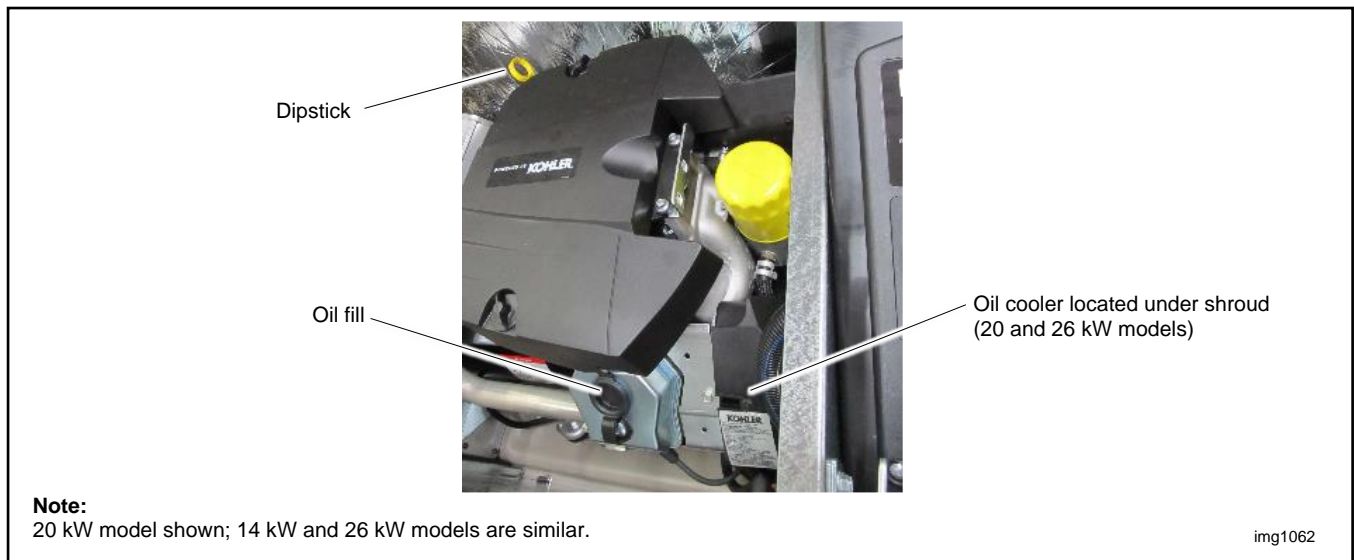

Figure 56 Oil Fill Components
- a. Add oil through the oil fill port; see Figure 56.